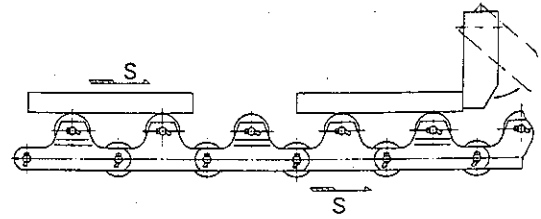

Fig. 1
1. Stopping material while chain is running (see Fig. 1).